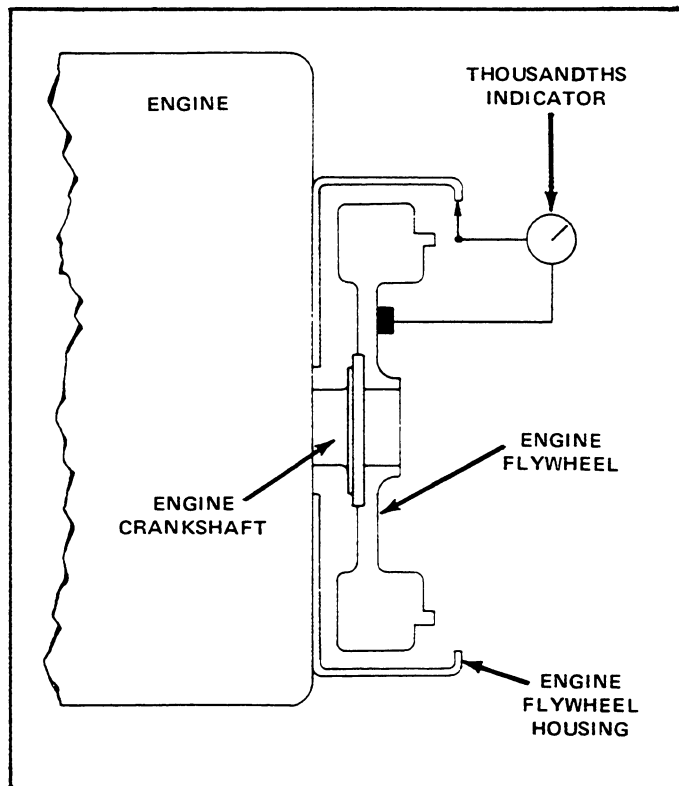

Figure 9-12. Checking the Bore of Engine Flywheel Housing.
3. With the indicator mounted as in the above paragraph, adjust the indicator stem so that it will ride on the bore of the engine flywheel housing. See Figure 9-12.